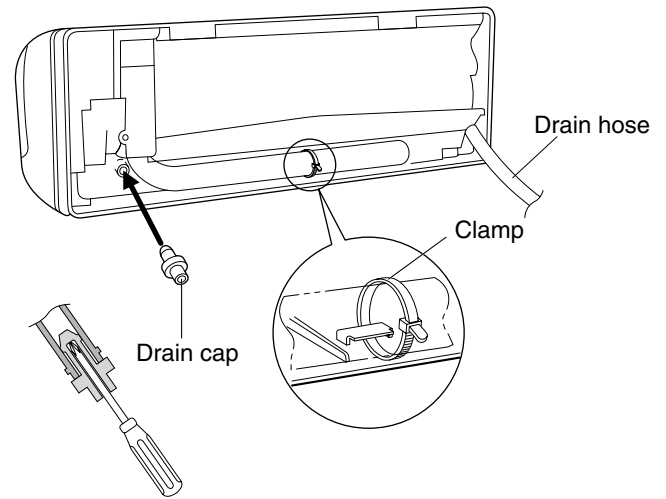

Fig. 3-47
- d) Reattach the drain hose to the left side and the drain cap to the right side. (Fig. 3-47)